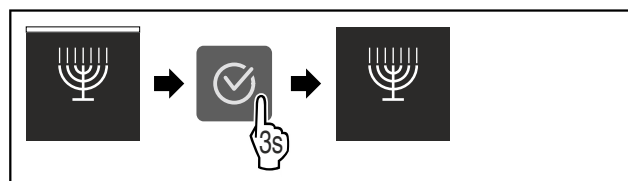

Fig. 14
- Complete the steps (see Fig. 14) .